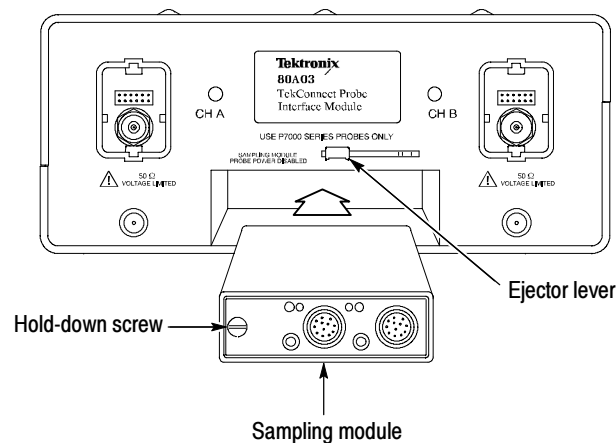

Figure 4: Installing the sampling module into the TekConnect Probe Interface Module
2. Insert the sampling module into the front-panel compartment of the TekConnect Probe Interface Module as shown in Figure 4.
4. Once the module is seated, turn the hold-down screw to tighten the sampling module in place. See Figure 4.